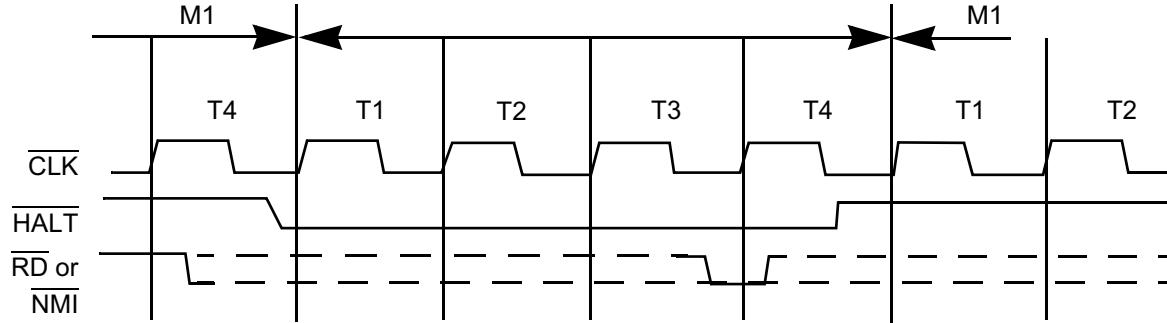

Figure 11. HALT Exit
When a software HALT instruction is executed, the CPU executes NOPs until an interrupt is received (either a nonmaskable or a maskable interrupt while the interrupt flip-flop is enabled). The two interrupt lines are sampled with the rising clock edge during each T4 state as depicted in Figure 11. If a nonmaskable interrupt is received or a maskable interrupt is received and the interrupt enable flip-flop is set, then the HALT state is exited on the next rising clock edge. The following cycle is an interrupt acknowledge cycle corresponding to the type of interrupt that was received. If both are received at this time, then the nonmaskable interrupt is acknowledged because it is the highest priority. The purpose of executing NOP instructions while in the HALT state is to keep the memory refresh signals active. Each cycle in the HALT state is a normal M1 (fetch) cycle except that the data received from the memory is ignored and an NOP instruction is forced internally to the CPU. The HALT acknowledge signal is active during this time indicating that the processor is in the HALT state.
► **Note:** The HALT instruction is repeated during the memory cycle shown in Figure 11.